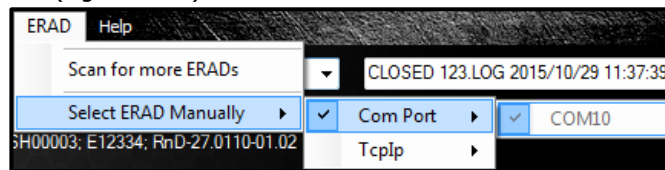

Figure 8.2-6: Com Port Selection from "ERAD" Menu
- b) Select "Com Port" from the menu (Figure 8.2-6).